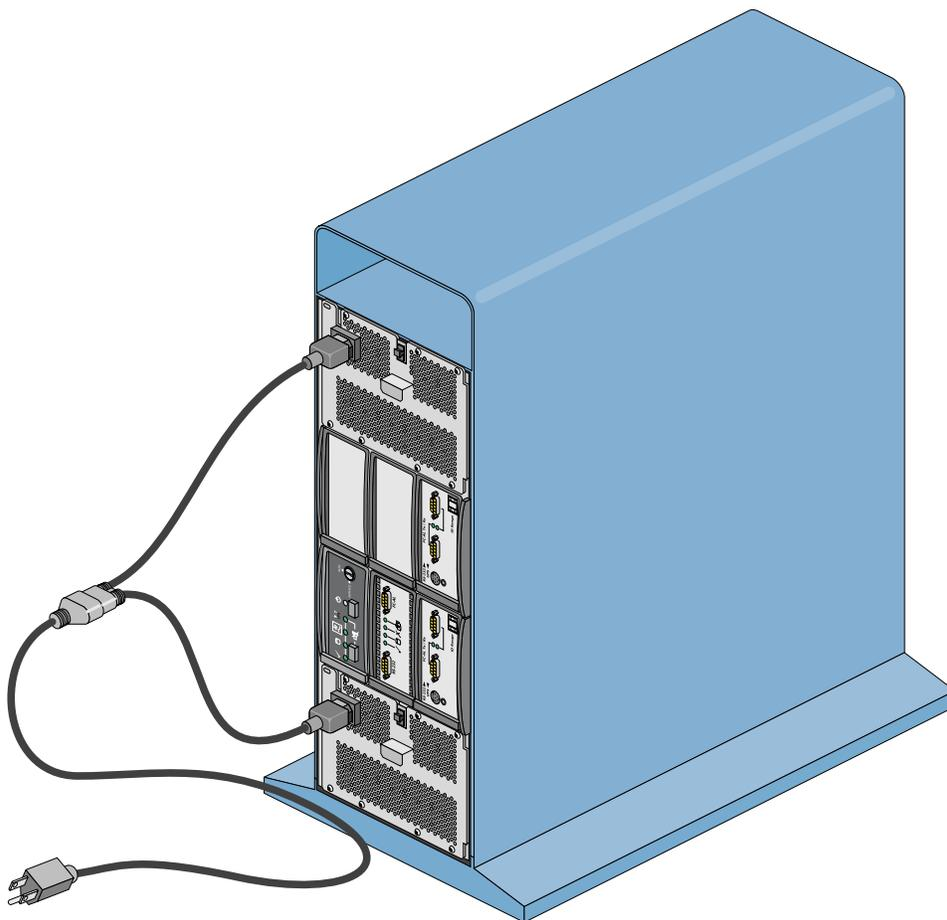

Figure 2-1 Bifurcated Power Cord for the Tower
- One bifurcated power cord, shown in Figure 2-1; this cable gives you the advantage of a single point of disconnect